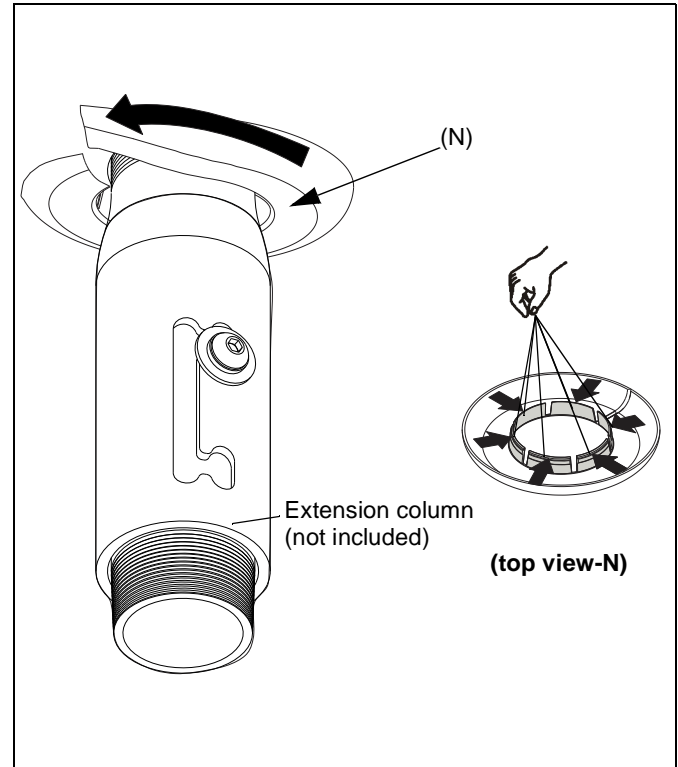

Figure 12
3. **OPTIONAL FOR INSTALLATION ABOVE EXISTING TILE:** Install NPT ring (N) on extension column below ceiling tile. (See Figure 12) If necessary, bend six tabs inward to secure ring to column.